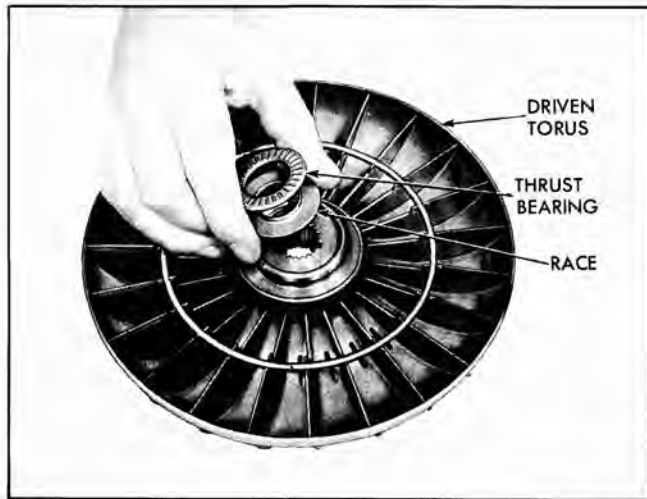

Fig. 127 Installing Thrust Bearing in Driven Torus
6. Install flanged race, flange up into driven torus (Fig. 127).